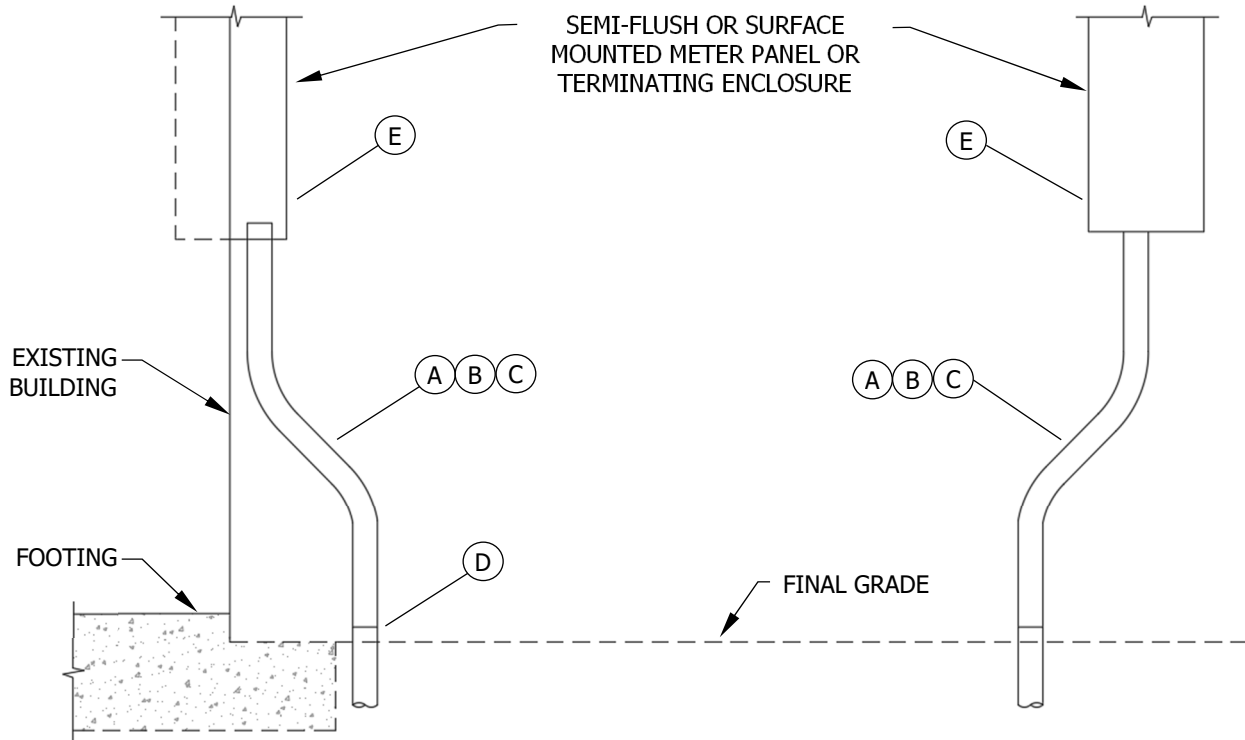

FIGURE 1
- * THIS STANDARD PROVIDES A MEANS TO AVOID EXCAVATING INTO AN EXISTING BUILDING FOOTING WHEN CONVERTING EXISTING OVERHEAD SERVICES TO UNDERGROUND (SEE FIGURE 1). IT ALSO APPLIES TO EXISTING OR NEW SERVICES WHEN A HORIZONTAL OFFSET IS REQUIRED DUE TO FIELD CONDITIONS (SEE FIGURE 2).